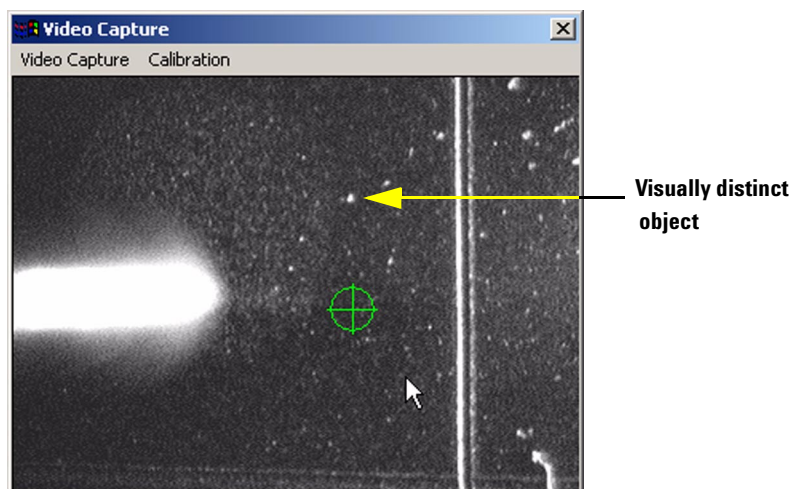
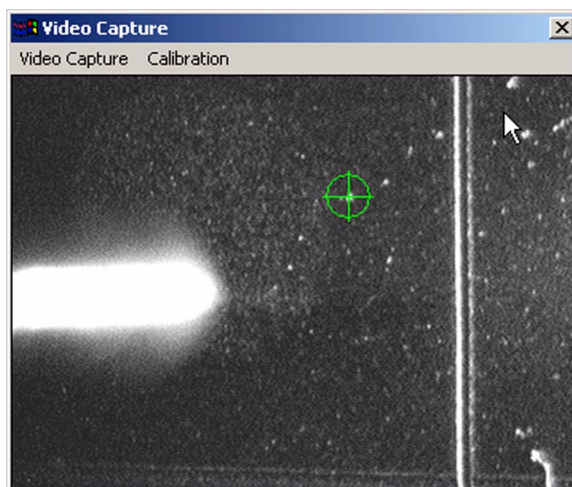

Figure 154 Video capture screen showing the location of the visually distinct object after step 4
Figure 155 Video Capture screen showing green target that was dragged over the visually distinct object in step 4
- 5 In step 4 of this calibration procedure, the Target Plate moves again, vertically (see Figure 154). Watch to see where the visually distinct object moves, then drag and drop the green target icon over the same object. See Figure 155. Click **Next**.